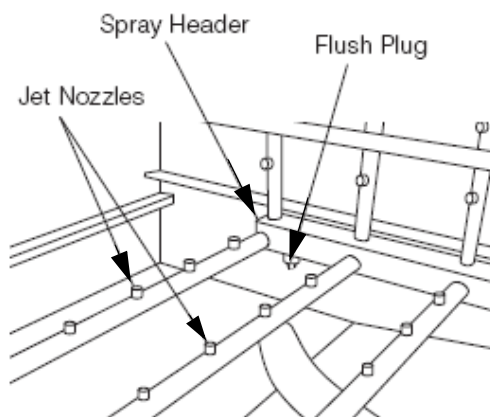

Figure 6-2. Spray Header
3. Remove flush plugs from bottom of spray headers (see Figure 6-2).